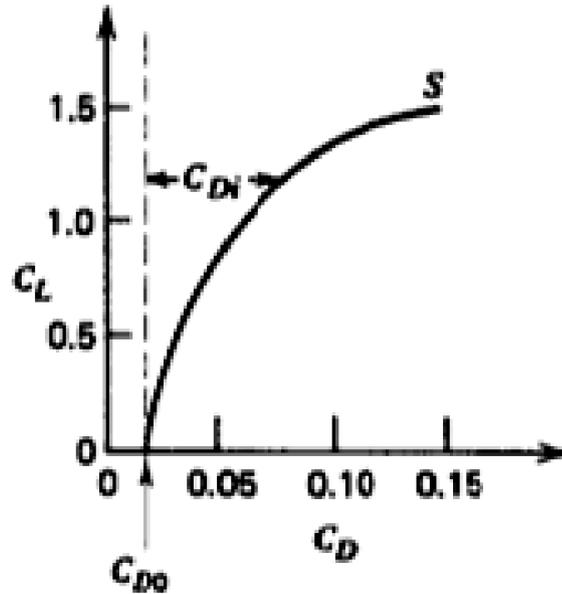

Figure 3: Variation of C_L with C_D
- The typical variations of C_L with C_D is depicted in Figure 3. The relationship between C_L and C_D is traditionally known as the **Drag Polar**, as given in Equation
A typical drag polar graph is depicted in Figure 3.